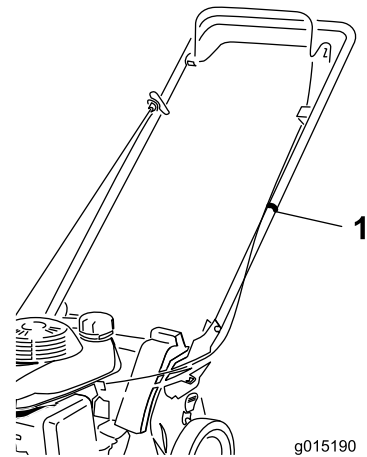

Figure 7
5. Tie the loose cables to the handle (Figure 7) using the cable tie from the loose parts bag.